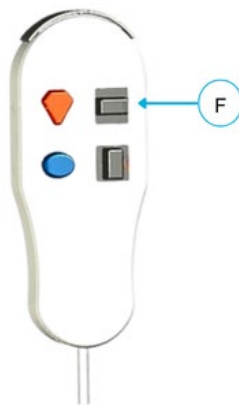

Figure 12-24: Controller Needle Advance/Retract Button
When all treatments have been completed along the Needle pathway, the Needle can be fully retracted by pushing downward and holding the **Needle Advance/Retract Button (F)** or by selecting the **[Full Retract]** option on the Generator screen (**Figure 12-24**).
1. Press downward and hold the **Needle Advance/Retract Button (F)** on the Controller until the Needle is fully retracted (**Figure 12-24**).
2. Or, select **[Full Retract]** on the Generator screen. Then the next press downward on the **Needle Advance/Retract Button (F)** will fully retract the Needle.